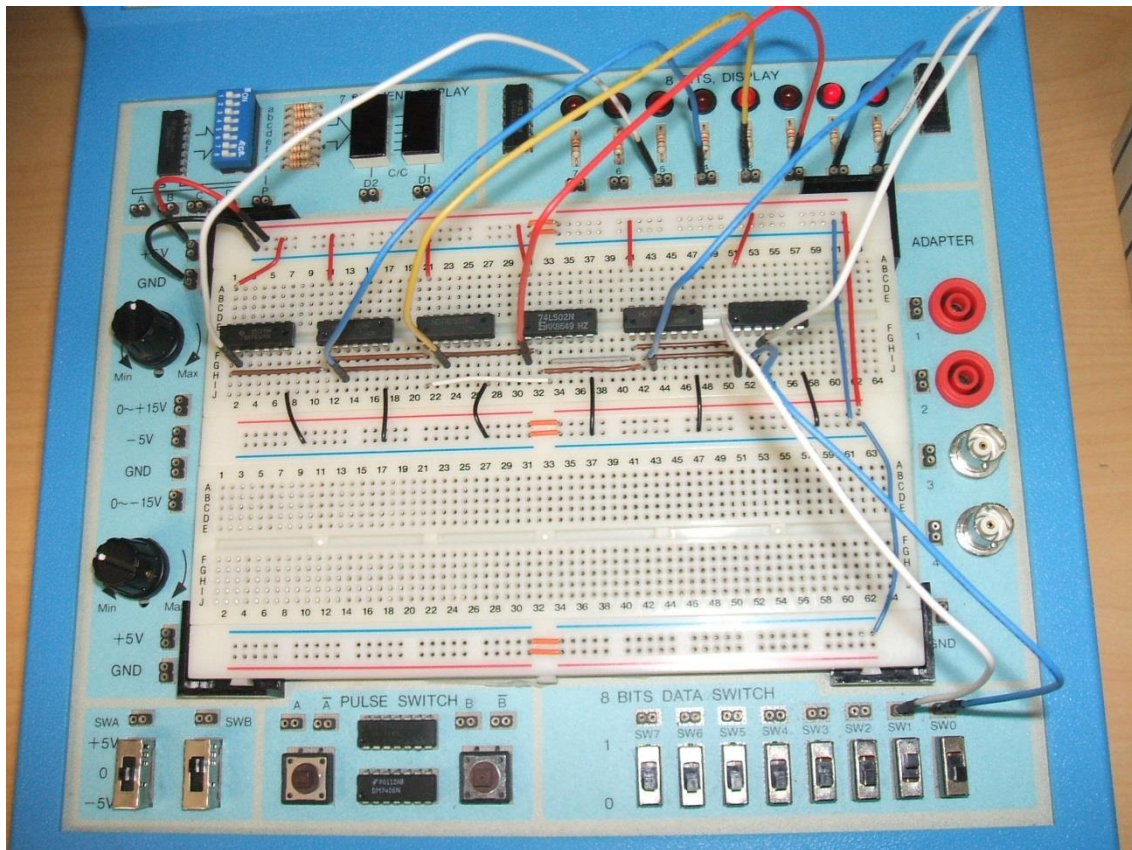

Figure 1 – Gates wired in parallel on wireless breadboard and IDL-800.
2. Perform the experiments (1-6) in Chapter 1 of the IDL-800 manual. Note that the ICs have been pre-inserted in the breadboard. You will need to wire power, ground, and input/output (I/O) connections for the experiments. You may connect the gate inputs to switches in parallel to save time. Use switches *SW1* and *SW0* for variables *A* and *B*, respectively. Connect gate outputs to LEDs for observing the results. Note that each IC chip contains multiple gates. However for this exercise, it's only necessary to use one gate per chip. Figure 1 shows a typical wiring layout for this experiment.